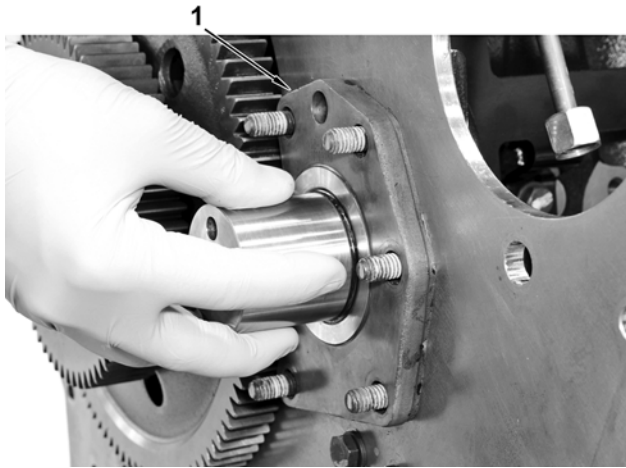

Figure 14 Fixed Idler Support Reassembled
19. Reinstall fixed idler support (Figure 14, Item1).